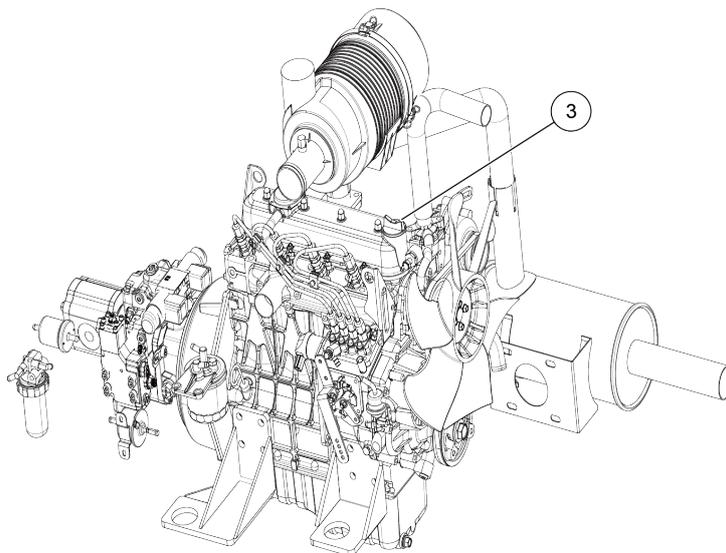

Figure 6-14 Oil filler
(2) Oil filter
Step 6: Unscrew the oil filler cap (3), and add oil. The amount of oil is about 6.8 kg, as shown in Figure 6-14;